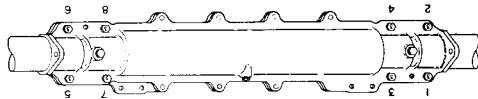

Fig. 22—Bolts Placed in Splice Case
- 3.33 Place bolts in positions 1, 2, 3, 4, 5, 6, 7, and 8 as shown in Fig. 22.